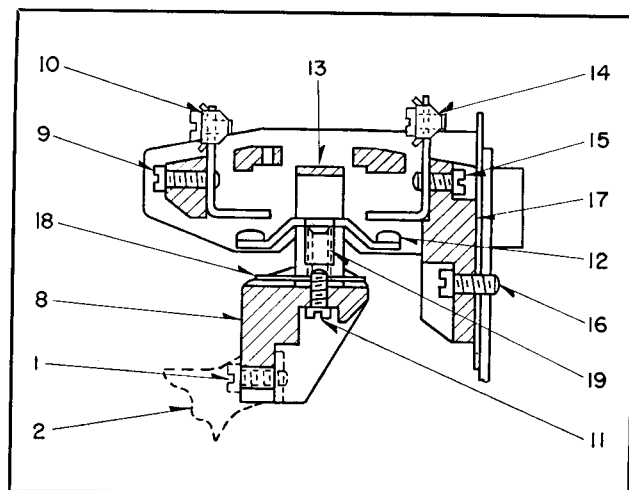
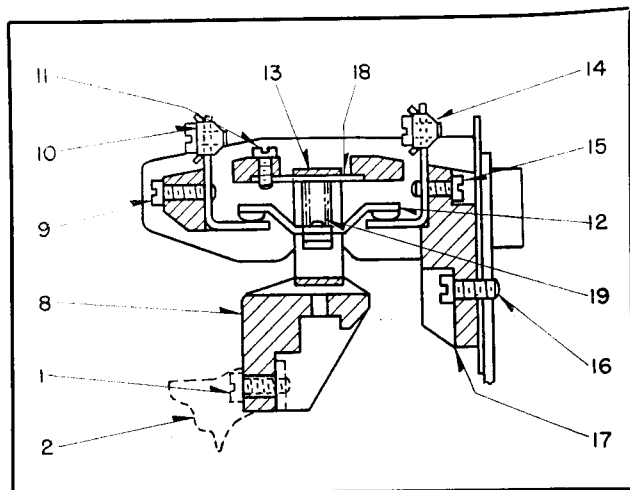

FIG. 2. Typical Normally Open Contact in De-Energized Position
FIG. 3. Typical Normally Closed Contact in De-Energized Position
Changing Contacts From N.O. To N.C. (Refer to Figs. 2 and 3) — To change N.O. contact, Fig. 2, to N.C. position per Fig. 3, first remove crossbar mounting screws (1) and withdraw crossbar (8). Second, remove front stationary contact mounting screw (9) and front stationary contact (10). Third, remove contact saddle mounting screw (11); invert the complete moving contact assembly and secure it in place in the molded contact base per Fig. 3 using the same screw (11) as before. Replace the front stationary contact (10) and operate the contact manually a few times to make sure it is free. Replace the crossbar assembly (8) and screws (1).
Normally Open Contacts. (See Fig. 2) Inspection of N.O. contacts is accomplished by removing the two crossbar mounting screws (1), whereupon the crossbar (8) complete with the moving contacts, may be removed and all contacts are accessible.
Normally Closed Contacts. (See Fig. 3) Inspection of N.C. contacts is accomplished by first removing the crossbar mounting screws (1) and the molded crossbar (8) complete with any moving contacts that may be attached thereto. Next, the front stationary contact (10) and its mounting screw (9) are removed and screw (11) is removed, allowing the complete moving contact assembly to be taken out for inspection.